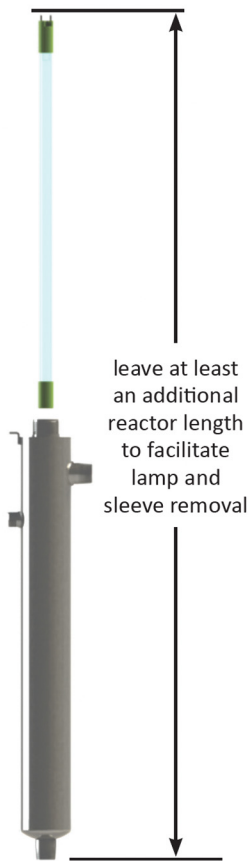

Figure 2a. Securely attach clamps to wall using screws
Step 3: Fasten chamber clamps to wall with screws provided. The screws must anchor securely into solid wood, concrete, or steel structure for adequate strength. Do not attempt to secure screws into drywall (Figure 2a). Install chamber into clamps (Figure 2b).